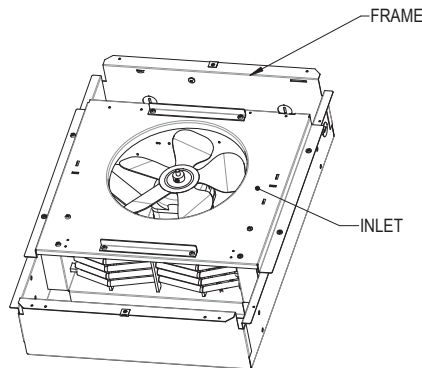

FIG. 5
3. Remove the inlet of the frame (see figure 5) by unscrewing the four (4) screws.
6. Replace the inlet, make the required electrical connections. Insert the sleeve surface into the grille and put back (see figures 5 and 8).